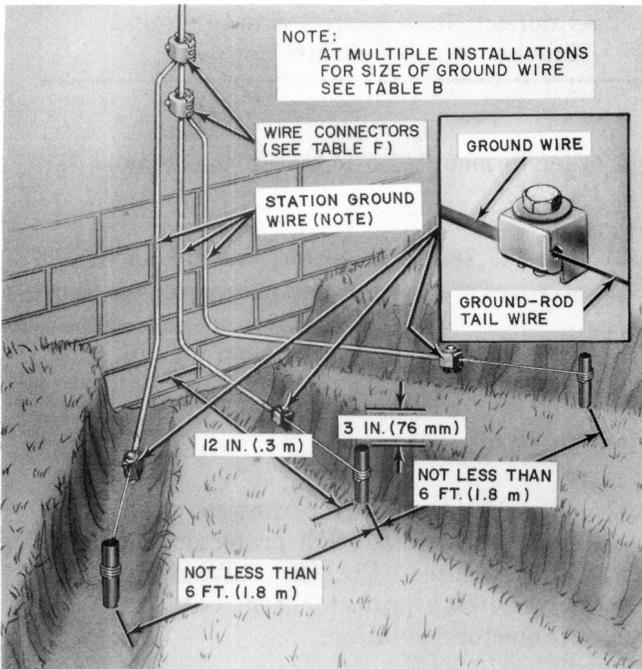

Fig. 78—◆Three Ground Rods◆
protectors together. Select wire connectors from Table F. No more than three ground rods need be placed. Space ground rods at least 6 feet apart (Fig. 78).
9.08 Multiple station protectors, such as the 116- or 117-type, should *not* be connected to a single telephone ground rod unless the rod is bonded to the power system ground rod. If a power system ground rod is not available, a multiple station protector may be connected to an array of three telephone ground rods, spaced at least 6 feet apart, and bonded together with No. 6 ground wire (Fig. 78).